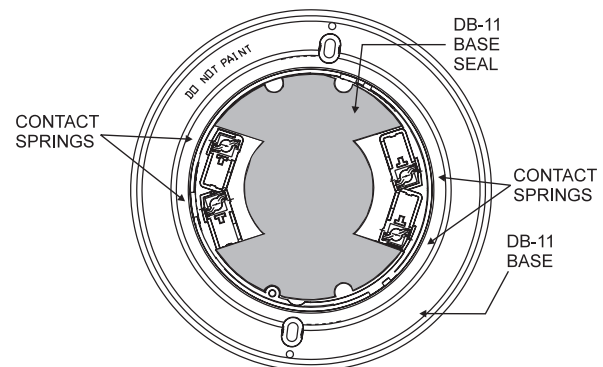

Figure 5
INSTALLING the DB-11 SEAL for DB-11 BASE (See Figure 5)
2. Place the base seal (1/4" white foam) firmly into the bottom of the base. Do not cover the contact springs (See Figure 5.)